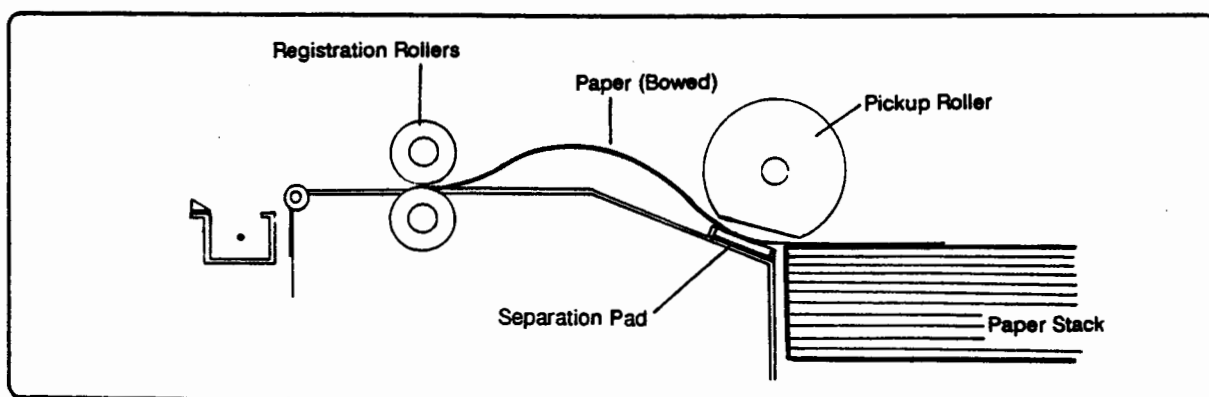

Figure 7-11. Paper Positioned in the Registration Rollers
The purpose of solenoid SL301 is to allow the Paper Pickup Roller to pick one sheet of paper from either the paper tray or the manual feed tray and advance the paper to the Registration Rollers. Since the Registration Rollers are not turning at this time, the paper will be bowed slightly as it enters the Registration Rollers (see Figure 7-11).
1. Does the paper have a slight bow (buckle) when it contacts the Registration Rollers? (See Figure 7-11.)	If the roller is picking paper, yet the paper is not entering the Registration Rollers, the Feed Roller Assembly is either worn or installed incorrectly. Replace the Feed Roller Assembly and Separation Pad. See the following "Feed Roller Assembly Functional Check" for verification.